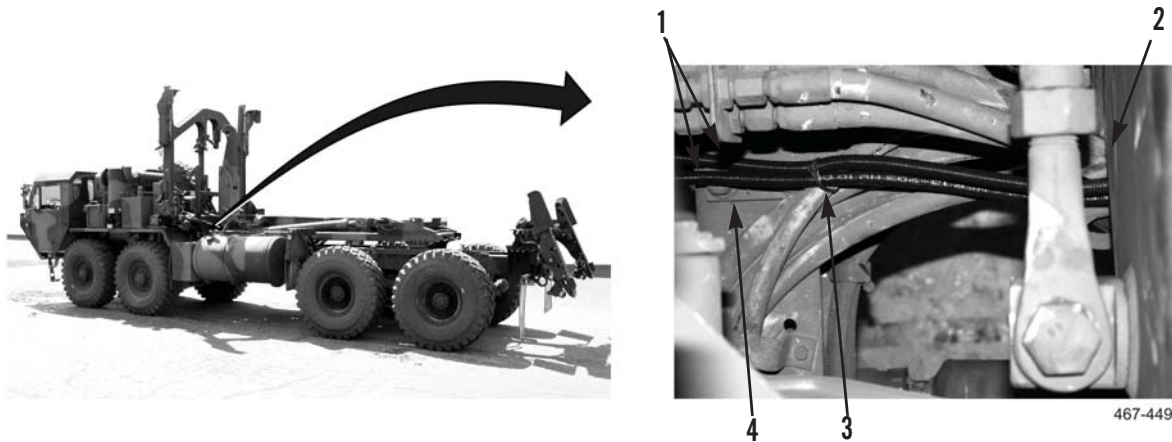

Figure 13. Twistlock Sensor Harness Installation.
39. Route RH and LH twistlock sensor harnesses (Figure 13, Item 1) from stowage assembly (Figure 13, Item 2), along interior of left side of frame (Figure 13, Item 4) to rear of vehicle. Route each sensor harness to rear of vehicle.
40. Install new tiedown straps (Figure 13, Item 3) as required to attach twistlock sensor harnesses (Figure 13, Item 1) to existing hoses along frame (Figure 13, Item 4).